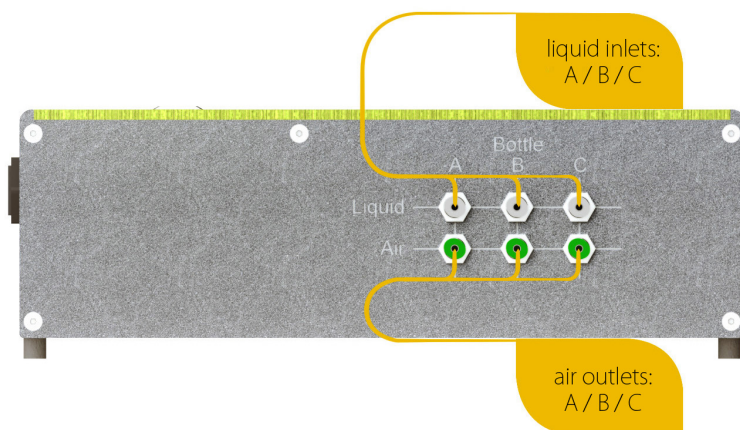

Figure 1. Left side panel of the Autoperfuser™ OS2100
- Connect the free ends of the three clear tubing provided to the liquid inlets A, B and C. Push the tubing firmly in. Similarly, connect the free ends of the three green tubing provided to the Air outlets A, B and C (Figure 1). The ends with the quick connectors should be attached to the corresponding bottles A, B or C filled with the desired liquids.